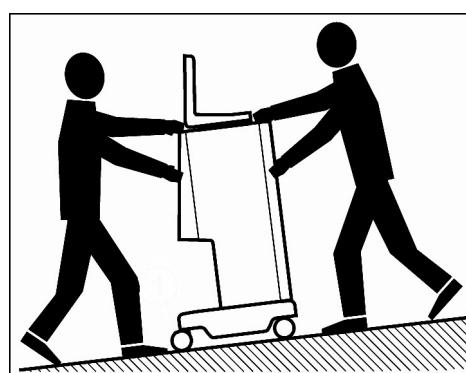

Fig. 4-2 Transport on stairs and slopes (2 persons)
4. To move the machine up or down stairs or slopes, be 2 persons as shown in Fig. 4-2.